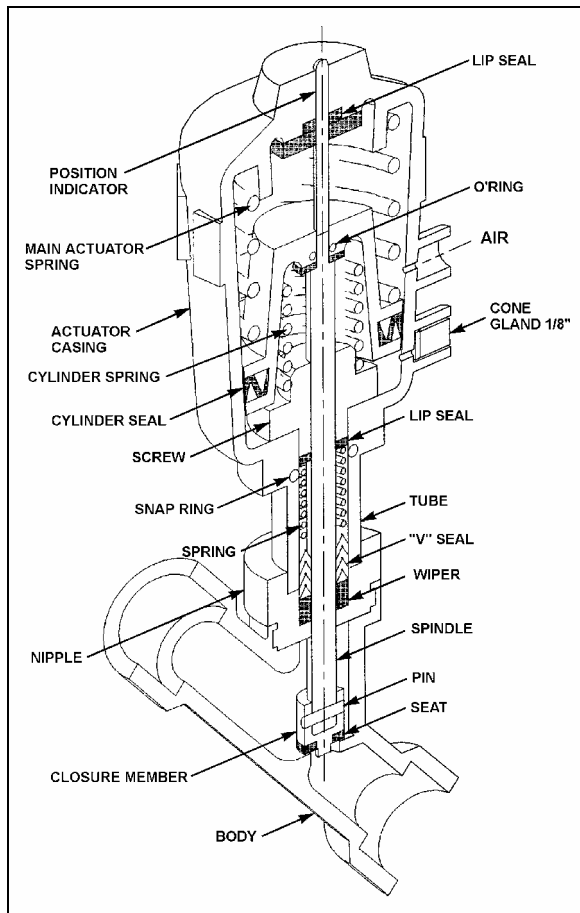

FIGURE 58: PASSENGER'S UNIT HOT WATER PNEUMATIC VALVE
2. The water valve need not be removed from the line. Unscrew nipple, the actuator casing, tube, spindle and closure member can be removed (Figure 58).
2. Tighten the nipple in place in the body cavity as per Figure 58. Fasten pilot solenoid valve to the pneumatic water valve. Reconnect air supply pressure and electrical current to the pilot solenoid valve.